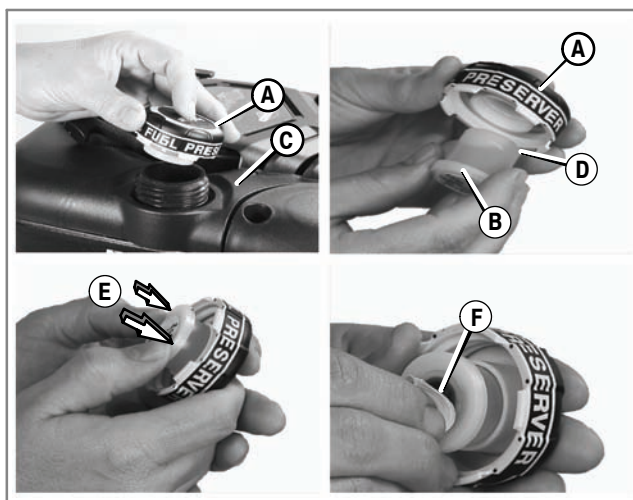

Figure 5
1. Remove the fuel cap (A) from the fuel tank (C) (Figure 5).
2. Push the small end (D) of the cartridge (B) into the fuel cap.
3. Press (E) to snap the cartridge into the fuel cap.
4. Pull the tab (F) to remove the membrane cover.